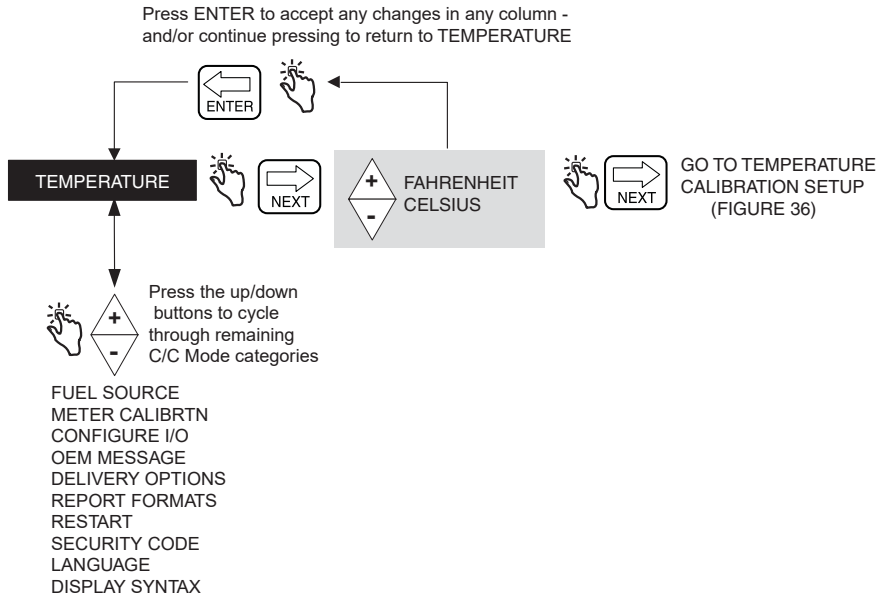

Figure 35. Temperature Setup
Figure 35 illustrates Temperature Probe's setup in C&C Mode.
1. Set the temperature mode to Celsius or Fahrenheit as shown in Figure 35, Temperature Setup.